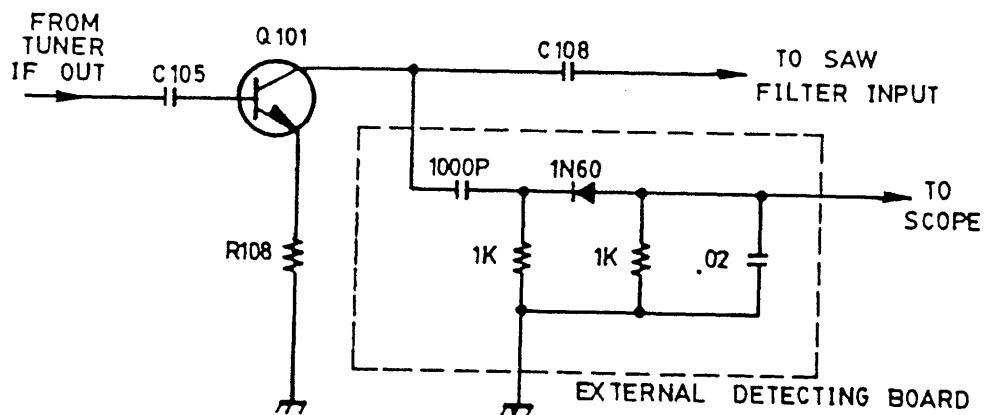

Fig. 7
2. Connect the external detecting circuit between the sync oscilloscope input and TP 101 (Q101 – Collector). (See Fig. 7.).
2. Connect the external detecting circuit between the syncoscilloscope input and TP 101 (Q101 – Collector). (See Fig. 7.).